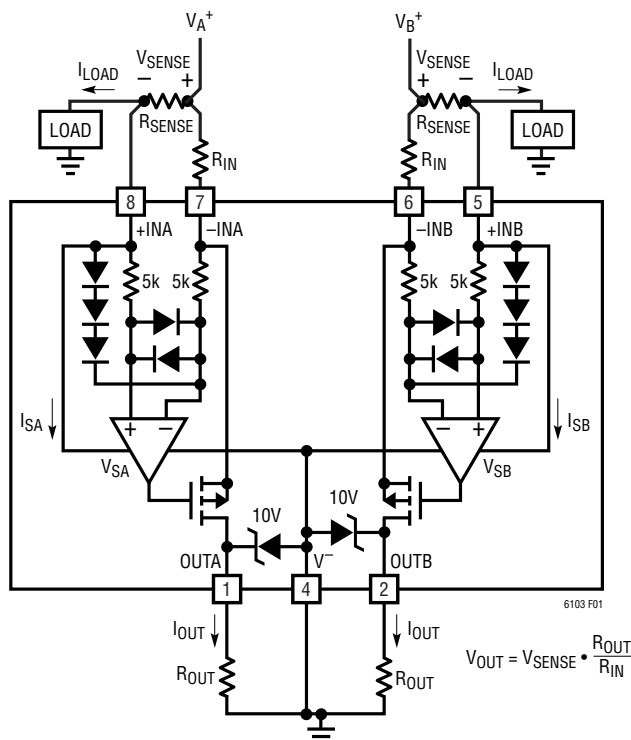

Figure 1. LTC6103 Block Diagram and Typical Connection
-INB (Pin 6): The Negative Input of the Internal Sense Amplifier B. The internal sense amplifier will drive -INB to the same potential as +INB. A resistor (R_{IN}) tied from V_B^+ to -INB sets the output current $I_{OUT} = V_{SENSE} / R_{IN}$. V_{SENSE} is the voltage developed across the external R_{SENSE} (Figure 1).
-INA (Pin 7): The Negative Input of the Internal Sense Amplifier A. The internal sense amplifier will drive -INA to the same potential as +INA. A resistor (R_{IN}) tied from V_A^+ to -INA sets the output current $I_{OUT} = V_{SENSE} / R_{IN}$. V_{SENSE} is the voltage developed across the external R_{SENSE} (Figure 1).